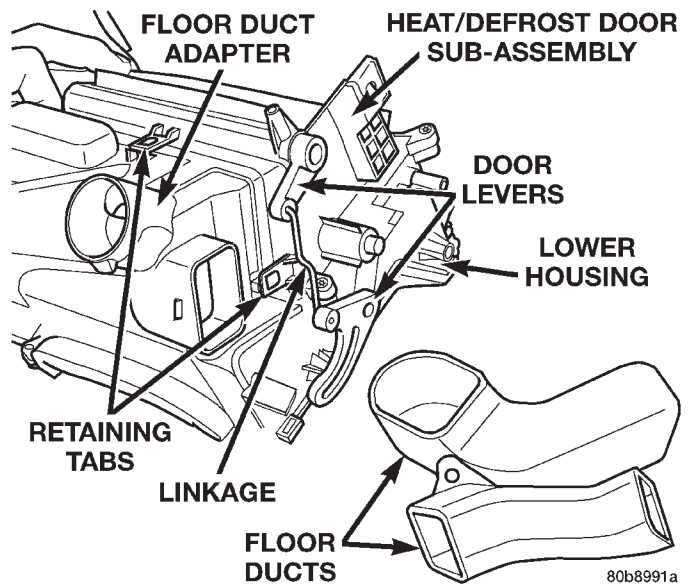

Fig. 42 Floor Ducts (Housing Removed)
(1) To remove the driver side floor duct from the vehicle, remove the knee blocker panel for access to attaching screw. See Instrument Panel Assembly in Group 8E - Instrument Panel Systems for the procedures.
(2) The passenger side floor duct fastener can be accessed under the right-center instrument panel.
(3) Remove the screw that secures the floor duct(s) to the HVAC housing (Fig. 42).
(4) Reverse the removal procedures to install. Tighten the mounting screws to 2.2 N·m (20 in. lbs.).